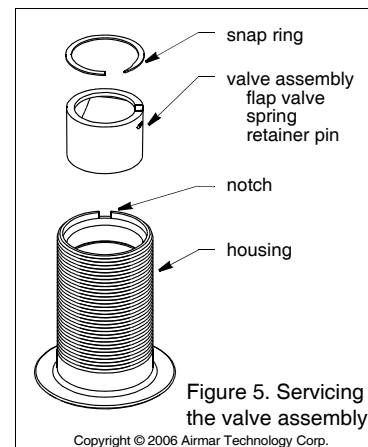

Figure 5. Servicing the valve assembly
3. Remove the snap ring from the valve assembly using a screw-driver to pry the end of the ring free (see Figure 5).
7. To reinstall the valve assembly, first reassemble the flap valve in the valve housing with the retainer pin and spring in place (see Figure 5).